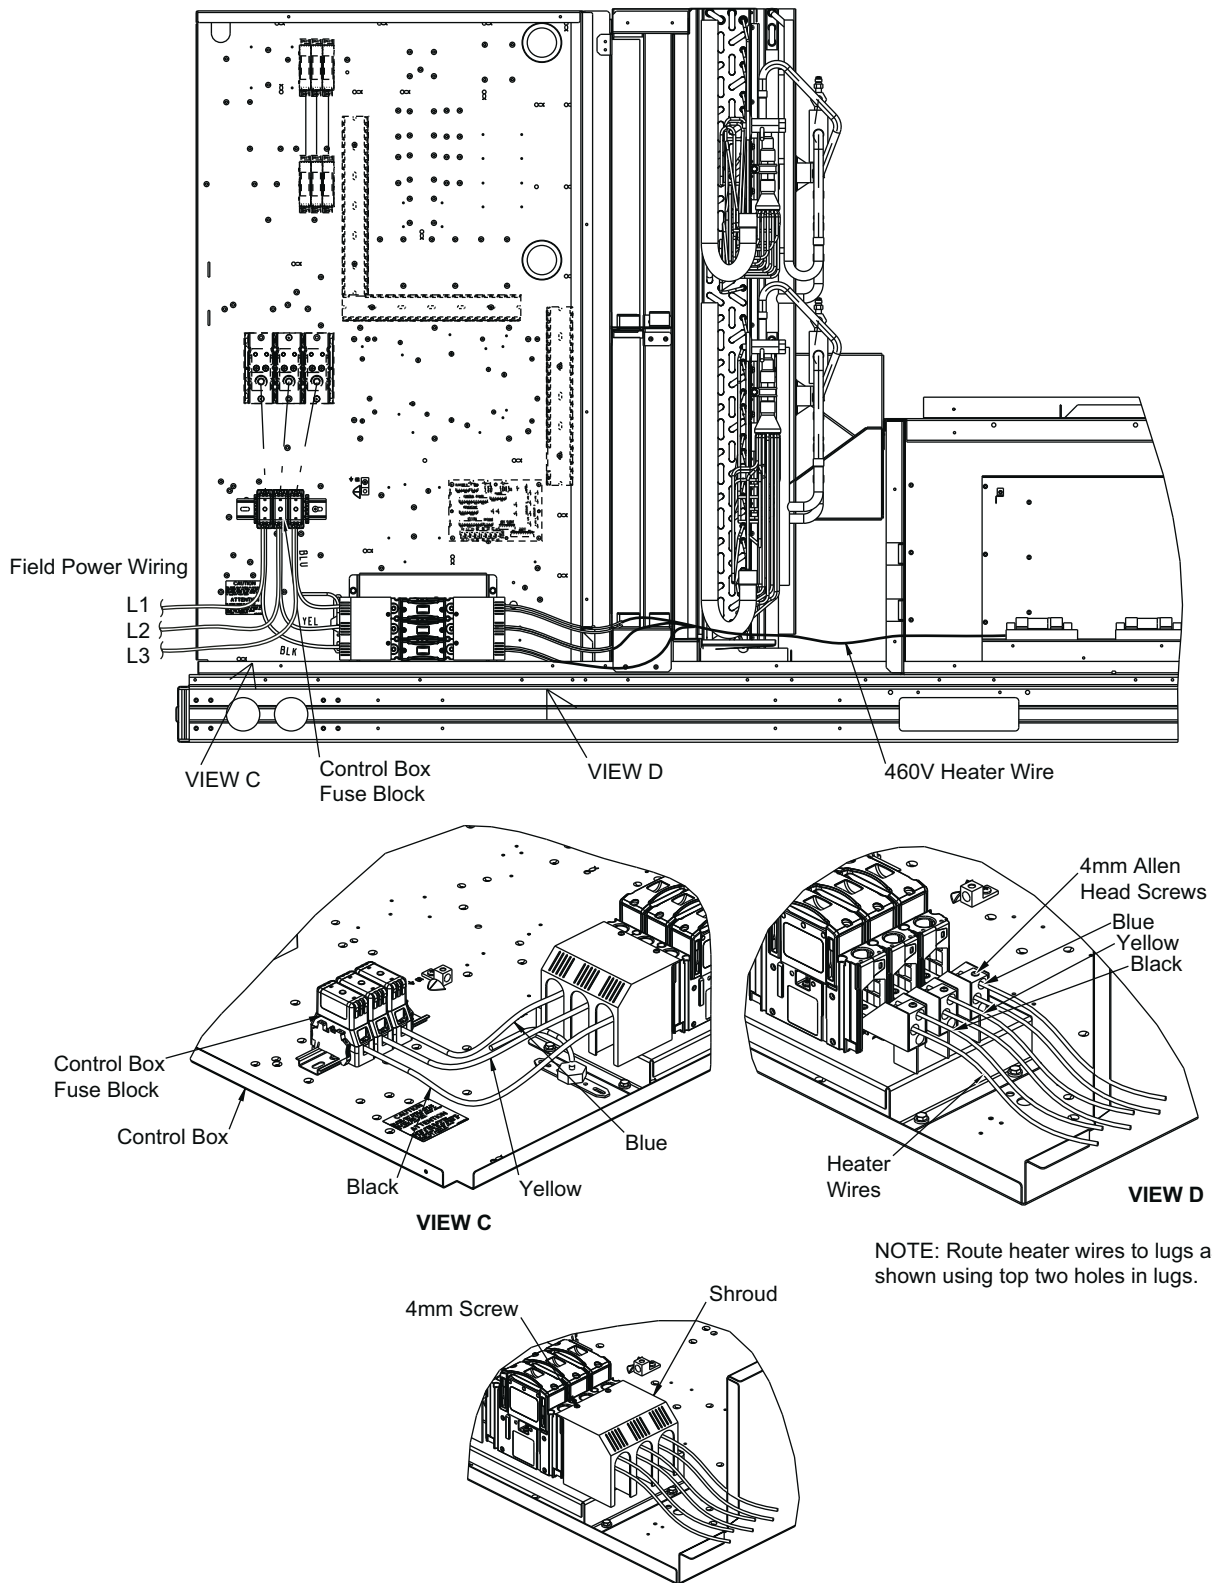

Fig. 52 — 460V Single Point Power Assembly Location (High SCCR)
1. Remove shroud screws and shroud. Install fuse block assembly in location shown in Fig. 52.